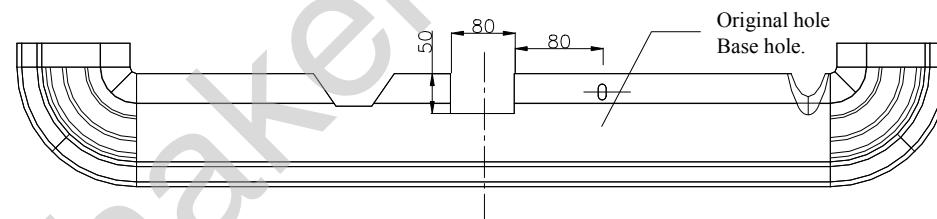

Fig. 2. Bumper cut out
5. Reassemble the bumper after cut out his fragment in lower part (as shown in the fig. 2)
6. Fix body of the automat and place tow-ball according to supplied instruction. Note! Remember to place socket plate (pos. 3) as shown on the drawing 1.